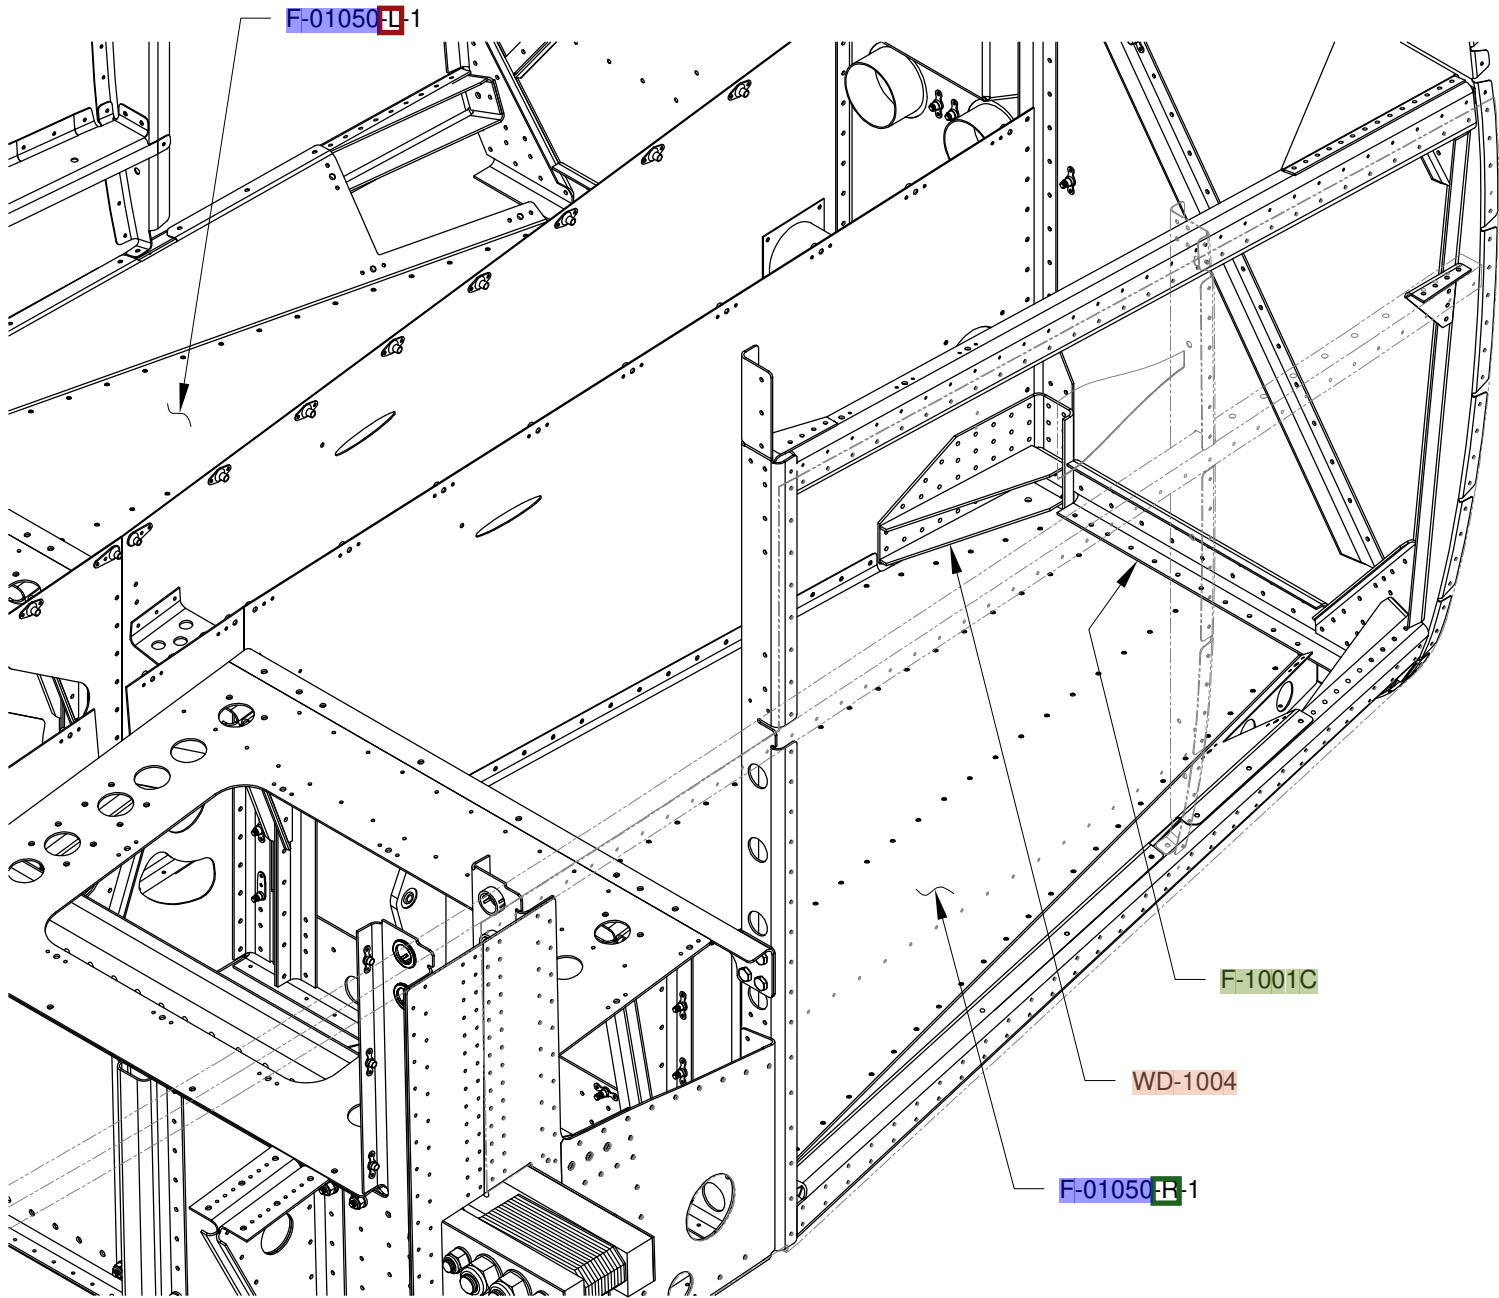

FIGURE 1: FWD CABIN FLOOR PANEL INSTALLATION
Step 1: Install the F-01050-F-1 Fwd Cabin Floor Panel into the fuselage by inserting its forward inboard corner beneath the WD-1004 Nose Gear Tension Fitting, then slide its forward edge beneath the F-1001C Firewall Lower Channel as shown in Figure 1.